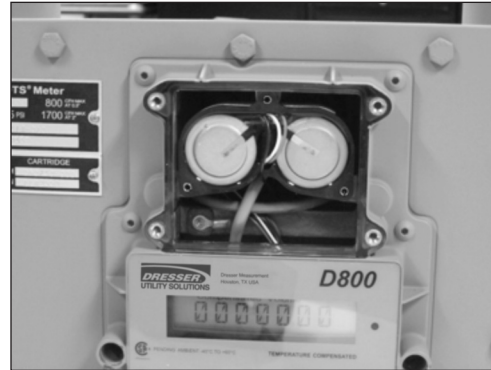

Figure 9.31 - Battery pack in place
- Insert the new battery pack into position, using the three dowel pins for proper alignment as shown in Figure 9.31. Push gently until the pack is in place.